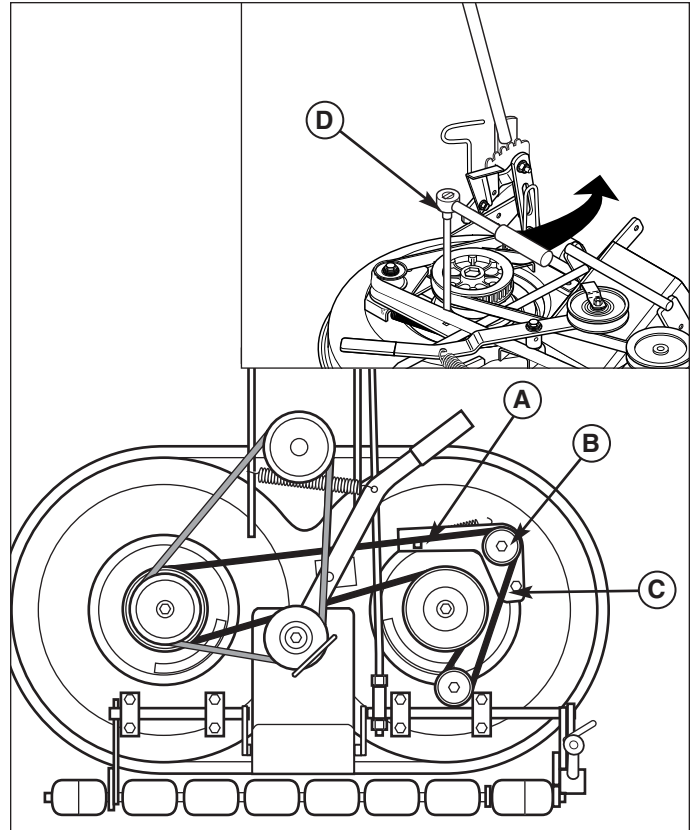

Figure 25. Mower Belt Tension
3. Loosen the idler assembly capscrew (B, Figure 25).
4. Using a 3/8" drive ratchet and extension (D), move the spring-loaded idler assembly (A) to relieve tension on the belt (C).
5. Remove the belt (C) and inspect it for cracks, missing teeth and wear. Replace belt if worn or damaged.
6. Reinstall the belt (C). Releasing the idler assembly (B) allows the spring to automatically tension the clogged belt.
7. Tighten the idler assembly capscrew (B) and reinstall the belt covers.